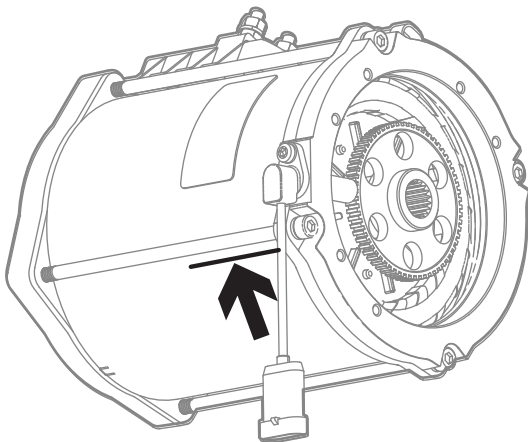

Figure 3 Mark Axle and Motor
2. Mark both the axle and motor housings to help with realignment during assembly of the motor to rear axle (Ref. Figure 3).